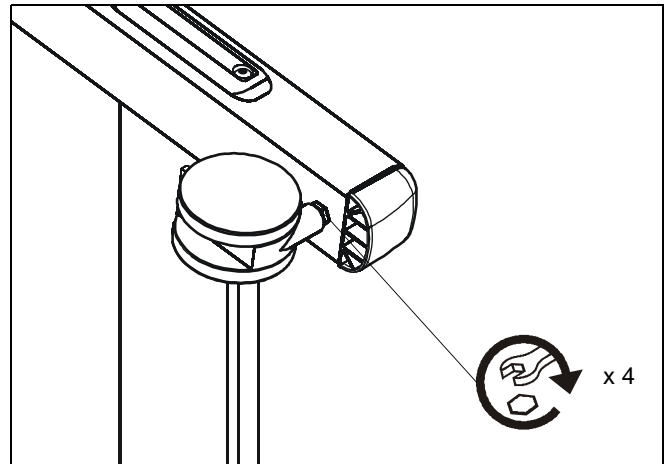

Figure 23
3. Check and tighten the hex nuts on the casters occasionally. (See Figure 23) These should be checked especially after use on uneven ground.